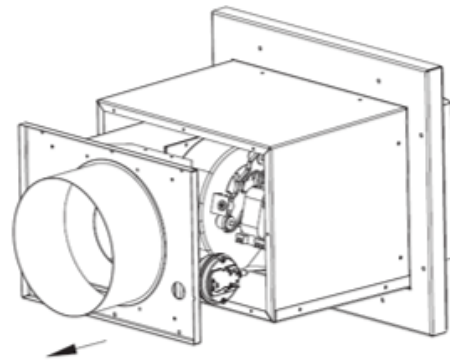

Figure 6.2 - Rear Plate Removal
3. Slide the exhaust assembly out of the back of the cap. See Figure 6.2.